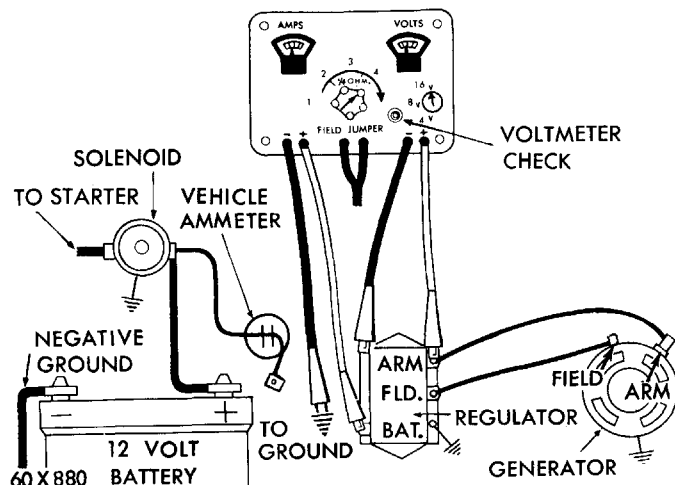

Fig. 7—Current Regulator Test
(1) Run engine at idle speed. Disconnect the battery wire from the battery terminal of the regulator, connect positive test ammeter lead to the "B" terminal of the regulator and negative lead to ground, as shown in Figure 7.
(2) Connect positive voltmeter lead to the "A" (armature) terminal of regulator and negative voltmeter lead to base of regulator.
(3) Adjust the engine speed to 2000 R.P.M.
(4) Turn control knob of tester to Number 4 position and adjust control knob for highest possible reading on the test ammeter. The peak ammeter reading is the setting of the current regulator. **When the control knob is rotated through the No. 4 position a variable carbon pile resistance is inserted in series with the ammeter circuit. When connected from the battery terminal of the regulator to ground (with the "battery" wire disconnected), the resistance of the carbon pile can be reduced so that the carbon pile "appears" as a discharged battery to the regulator. This forces the current limiter (current regulator) into operation so that its setting or adjustment can be checked.** (Refer to specifications for specified current regulator setting.)
(5) Return control knob to Number 3 position.